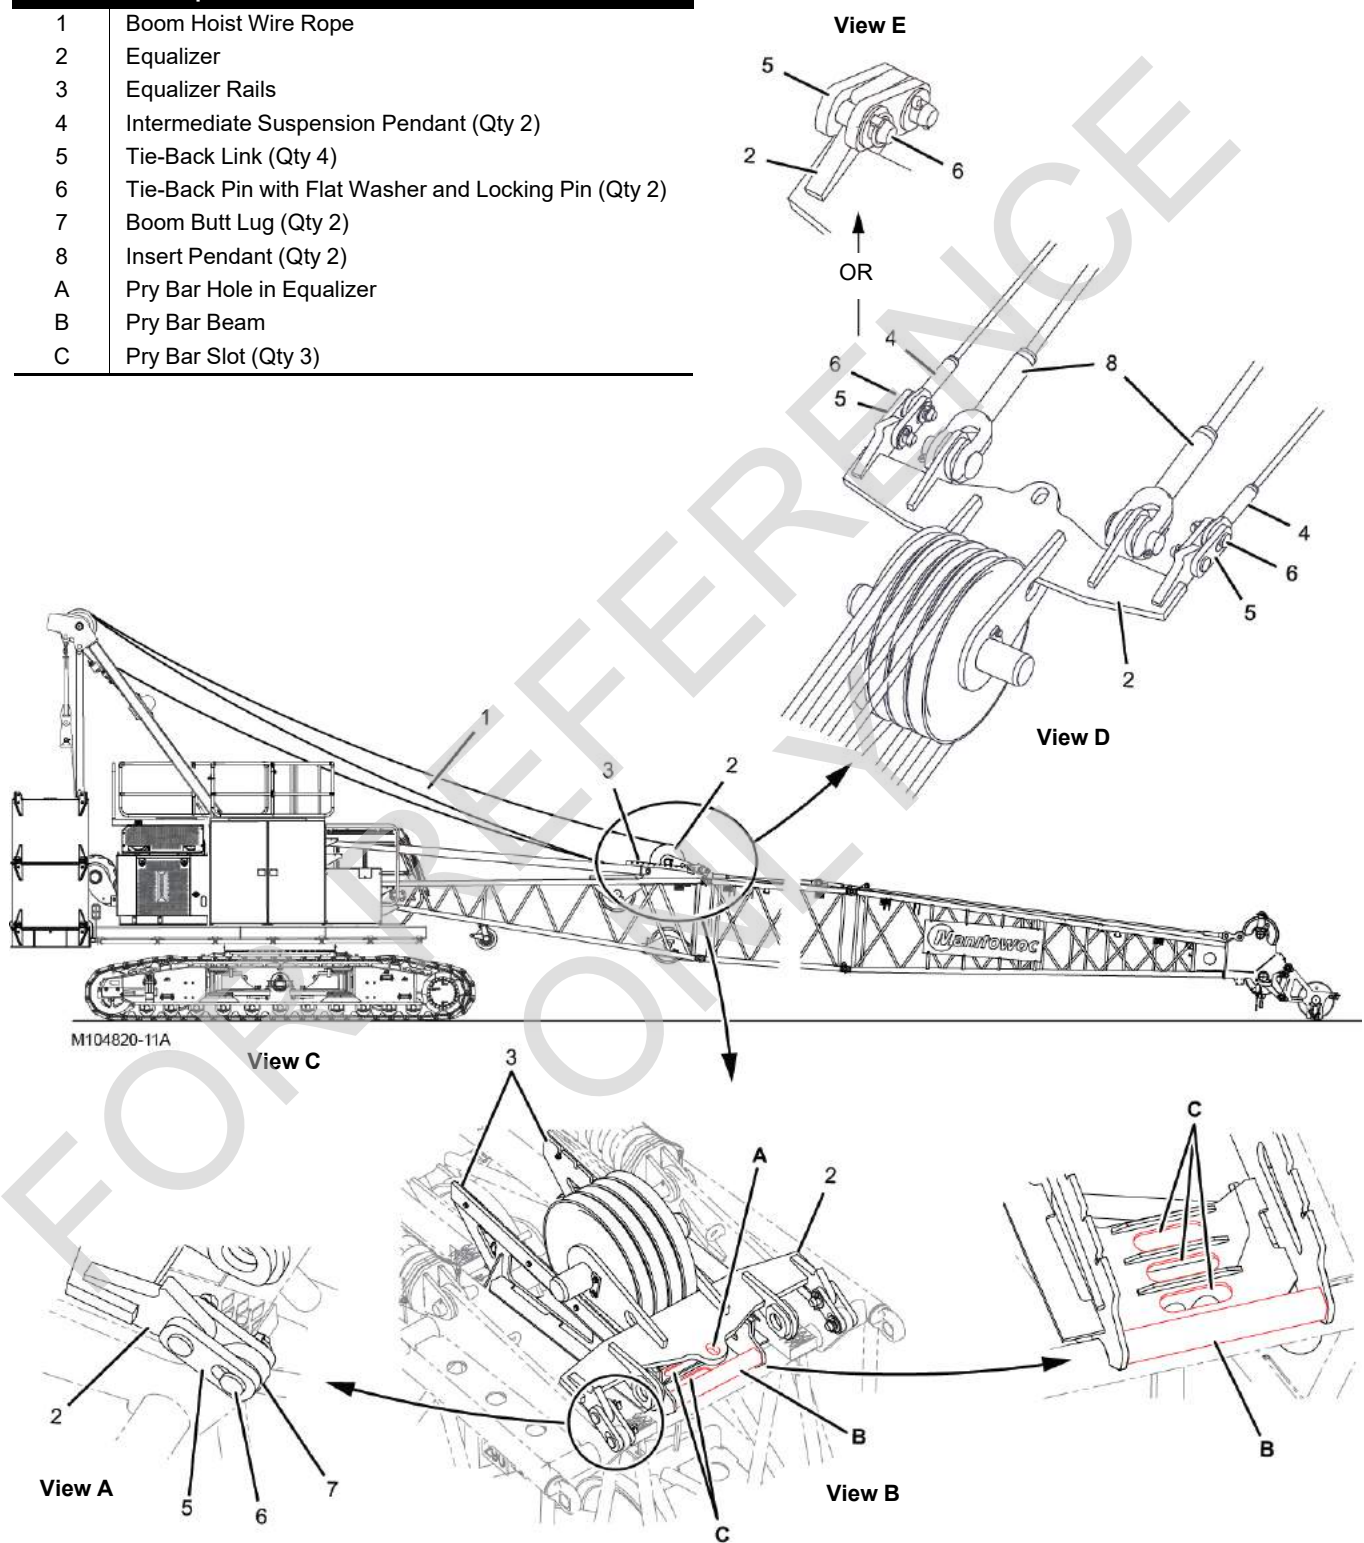

Figure 4-43
Do not disconnect the insert pedants (8, View D, Figure 4-43) from the equalizer (2) until the equalizer is pinned to the boom butt. Otherwise, the equalizer can be pulled rearward by the boom hoist wire rope.
See Figure 4-43.
1. Make sure the equalizer is pinned to the boom butt with the tie-back links as shown in View, Figure 4-43 on page 4-66.